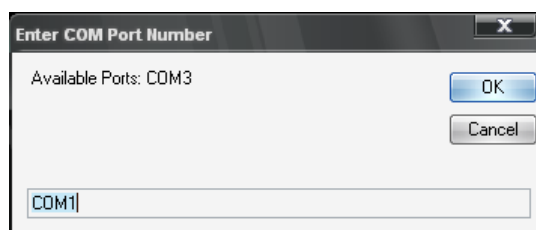

fig. 6.2. Available ports
- 2) in the window that appears, select the COM port number from the list of available ports (fig. 6.2) and enter the required COM port number at the bottom of the window (input line).